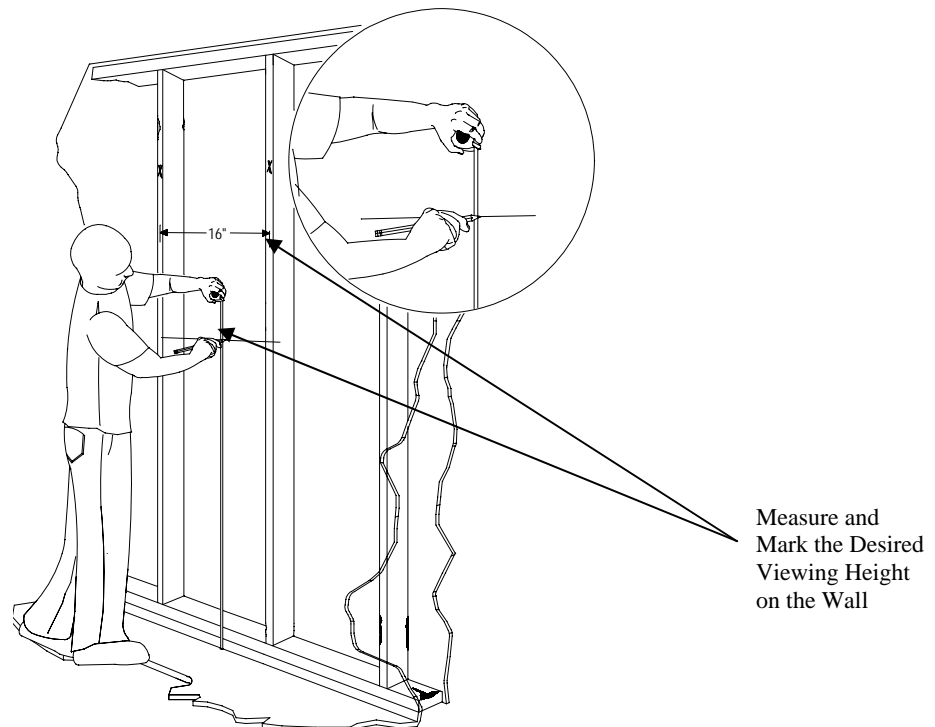

Figure 8. Measuring the Height
3. Measure from the floor to the desired viewing height and mark the wall (Figure 8).